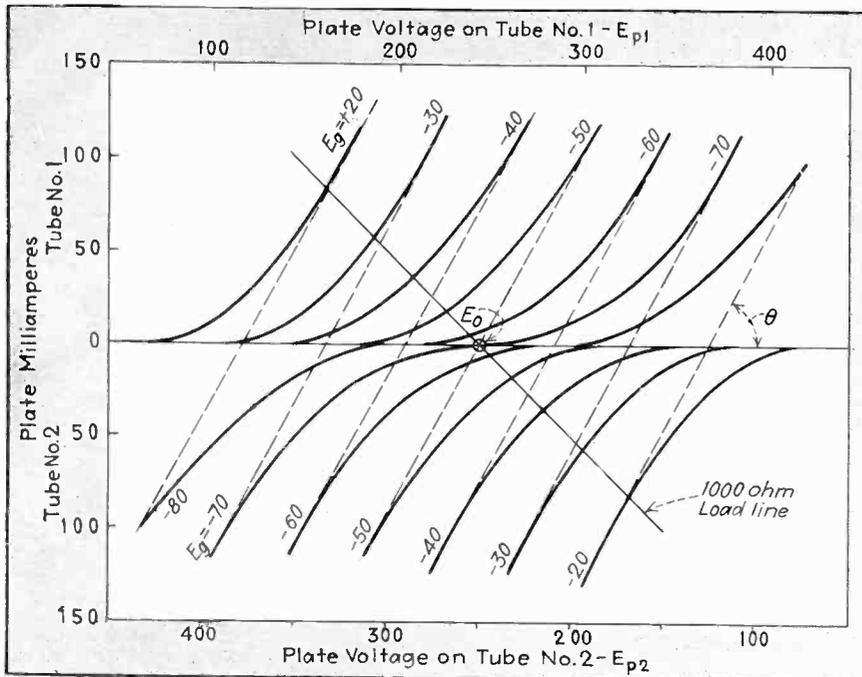
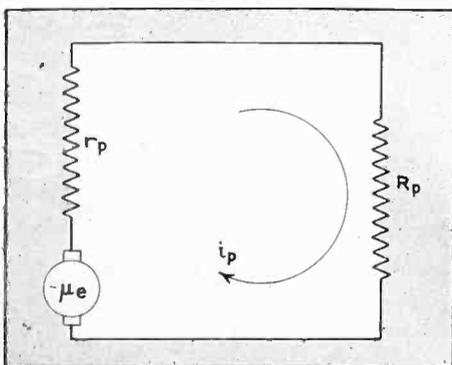
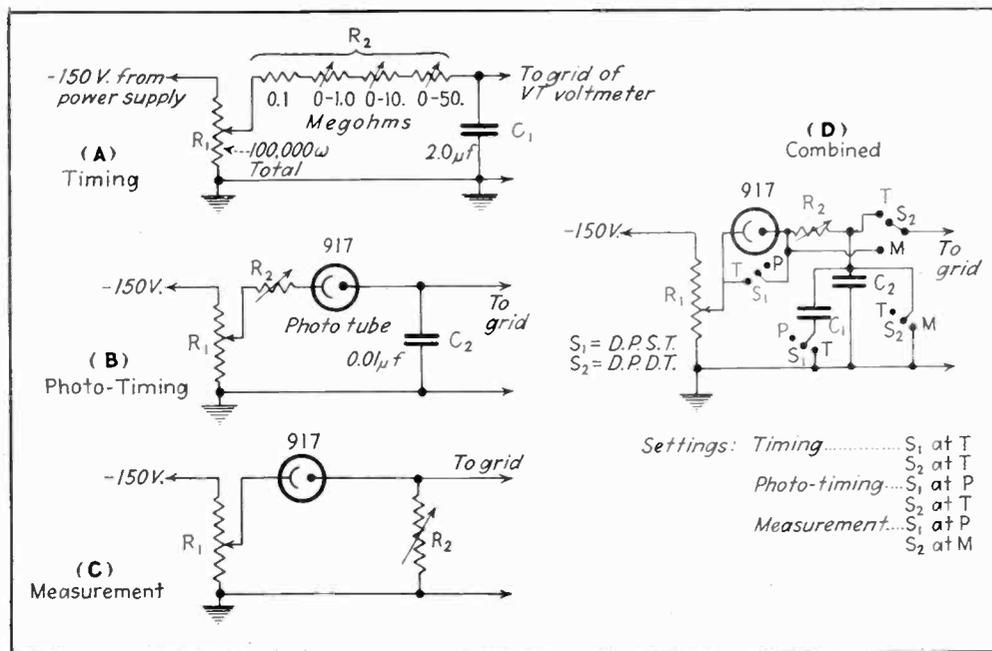

Fig. 3. Double set of plate characteristics for 2A3 tubes
Fig. 4. Equivalent circuit of push-pull amplifier
Fig. 2—The control circuits applied to the grid of the VT voltmeter, shown separately for clearness. The connections in (D) are actually used in the instrument
Fig. 3—The television modulating signal, showing video signal of the odd-numbered lines, the blanking pedestal, and the line- and frame-synchronizing impulses. The frame sync impulses are of the serrated type
In Fig. 3 the region between the indicated lines is devoted to the video signal. The minimum amplitude of the video signal corresponds
Fig. 4—The elements of the typical television receiver, both video and audio. The average illumination of the picture is controlled by a bias value obtained from the second detector
tal of the same amplitude as the line synchronizing impulses but of considerably different shape. These are shown in Fig. 3-B.
The television signals shown in Figs. 3-A and 3-B are ideal signals produced by a perfect camera tube and transmitter without selective attenuation. In actual practice the attainment of this ideal case is practically impossible. One type of distortion has already been mentioned. It is the shading problem which produces an uneven illumination of the field of the reproduced image due to the fact that the Iconoscope produces a video signal from each line whose d-c component is slowly varying. As the camera tube beam scans each line the net charge on successive elements may increase progressively due to the effect of secondary emission. The increase in the video signal upwards, from the beginning to the end of the line, means an increase in the overall brightness corresponding to the increase in amplitude. As a result the beginning of the line is absolutely dark and the end of the line over-bright. Corrections of this effect may be made by altering the lighting so that a major portion of the light is directed toward the beginning of each line. However, this is at best a compromise. To secure a definite correction of this distortion it is necessary to add a decreasing d-c component to the video signal during each scanned line which exactly compensates for the increase in the d-c component in the scanning mechanism itself. This compensating voltage provides a net signal similar to the ideal case previously considered. The introduction of the
The use of static $E_p - I_p$ curves for obtaining the power output and distortion of a single tube operating in Class A is quite familiar. As indicated by Eqs. (1) and (2) the calculation of push-pull performance must involve the use of plate current difference characteristics, $(I_1 - I_2)$. These characteristics can be obtained by a convenient method due to B. J. Thompson.¹ This is illustrated in Fig. 3 for two type 2A3's operating with 250 volts on the plate and 50 volts grid bias. Essentially these curves were produced by constructing two individual static characteristic families, one inverted with respect to the other, with a common zero-signal plate voltage, E_o , then subtracting corresponding static characteristics point by point. The resultant dotted lines trace out the plate current difference character-
istics, $(I_1 - I_2)$, flowing in the output transformer for different grid excitation values. The dotted lines representing the equivalent static family of $E_p - I_p$ curves for the two tubes in push-pull can be utilized for predicting their combined effect just as the individual static $E_p - I_p$ characteristics for a single tube in Class A can be used for calculating its output and distortion for a given load. Similarly, the equivalent plate resistance, r_p , of the push-pull tubes is equal to the reciprocal of the slope of the static difference characteristics or to $\cot \theta$ in Fig. 3. Thus, the plate-generator circuit for push-pull tubes evolves from the above considerations as shown in Fig. 4.
tack is that the evaluation of r_p must be obtained by the cumbersome construction of two sets of curves. Examination of the effect of changing either the grid bias or plate voltage further increases the task, since new plots must be made for each different static voltage condition, Fig. 3. A simplifying method which removes the necessity of plotting curves and utilizes only the plate characteristic curves sent out by the manufacturer will be shown.
Notice from Fig. 3 that the resultant characteristics are all very nearly parallel straight lines; hence the effective plate resistance, r_p , can be closely approximated by constructing only one pair inverted curves. Further simplicity results by using the zero-signal characteristics, ($E_g = -50$, $E_p = 250$, in Fig. 3). This difference characteristic passes through the common plate voltage, E_o , and becomes tangent to the static curve of tube No. 1 when
Comparison of this result with that obtained by taking point by point differences, Fig. 3, shows an exact agreement. This newly developed method was used to investigate the conditions of push-pull circuit operation for several values of grid and plate operating voltages, the results being given in the following table:
The 150-volt negative supply from the voltage doubler is fed to the grid circuit of the VT voltmeter through the various arrangements of components shown in Fig. 2. The potentiometer R_1 serves to set the level of the calibration of the entire instrument, and is used also to compensate changes in supply voltage.
range in Fig. 2-A is used. The voltage from the potentiometer is fed through the variable resistor R_2 to the condenser C_1 . Resistor R_2 is composed of three units in series: a 0-1 megohm linear carbon volume-control, a 0-10 megohm linear control, and a step-switch of five 10-megohm units. The protective resistor (100,000 ohms) is not controllable; R_2 has a continuous range, therefore, from 0.1 to 61.1 megohms. The 2.0 μ f high quality paper condenser, C_1 , is charged at a rate depending on the size of R_2 and the resulting voltage across its terminals is applied to the grid circuit of the VT voltmeter.
When the instrument is used as a light-quantity meter (Fig. 2-B), the phototube, a 917 or 919 vacuum-type caesium tube, is connected in series with R_2 and C_1 is replaced by the smaller (0.01- μ f) unit, C_2 . This connection measures the voltage on a condenser charged through a phototube, i.e. whose rate of charge depends on the amount of light falling on the phototube.
Still another switch connection (Fig. 2-C) removes both condensers and connects R_2 as the grid resistor across the VT voltmeter, so that the phototube current is measured in the conventional manner. This circuit is used for illumination measurement and photo-relay applications. The combination of the all three switching arrangements (Fig. 2-D) is not too complicated and it adds immeasurably to the flexibility of the instrument.
A type 43 tube takes the voltage applied by the circuits of Fig. 2 between its grid and ground and converts it into a plate-current value of corresponding magnitude. In the plate circuit of this tube is a 0-25 ma. moving coil d-c milliammeter, and the control coil of a Western
Electric J-12 single-make relay. The self-bias resistor in the cathode lead of the 43 is adjusted until the plate current of the tube is 25 ma. with the grid shorted to ground. These connections are shown in Fig. 3.
The heart of the circuit, from the application standpoint, is the arrangement of the push-button and relay-contactor points, shown in Fig. 4. The contacts of the J-12 relay are permanently connected in series with the control coil of the main contactor (a Struthers-Dunn type CBTX1P, 6-amp.—non-inductive load—contacts, two make and two break, with a common armature contact). These latter contacts control the output power of the device, lock-up the push-button control, and initiate the condenser-charging cycle, simultaneously.
Fig. 3—(left) The VT voltmeter, controlled by the circuit of Fig. 2-D. Fig. 4 (right) the push-button, relay, and contactor interconnections which control the external load
tube. The true form of this curve is shown in Fig. 2. If an amplifier of conventional design is used in tracing this curve, the oscillograph may trace the curve shown in Fig. 3. The explanation for this false reproduction is that the sharp bend in the true curve is, to the amplifier, a fundamental frequency plus strong high-order harmonics. Because the amplifier shifts the phase of different frequencies by different amounts, the harmonics lag the fundamental in the output of the amplifier and appear as ripples. In other words, the false reproduction is due to phase distortion in the amplifier.
This requirement cannot be met by an amplifier tube connected in the conventional manner (indicated in Fig. 4) with a cathode-bias resistor and condenser, a decoupling resistor and condenser, and a filtered plate supply. The reason is that the condensers in the circuit introduce phase distortion. As an illus-